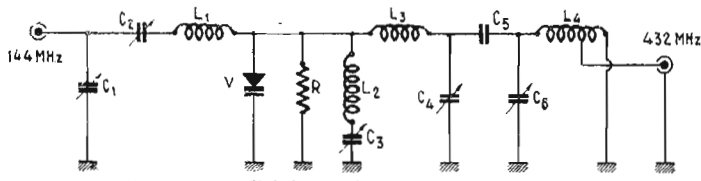

FIG. 10. — Tripleur 144-432 MHz (1^{re} version)
2. TRIPLEUR 144-432 MHz (fig. 10)